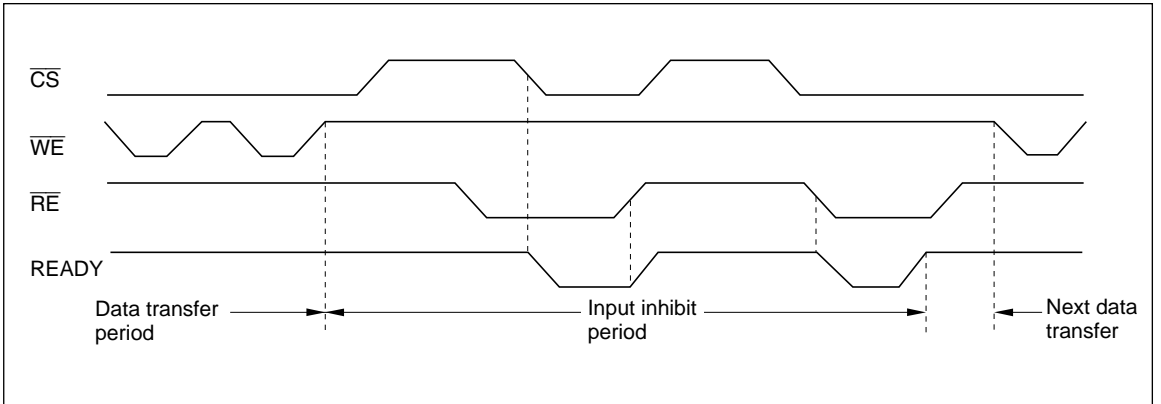

Figure 13 READY Output Timing (When It Is Made Available by \overline{CS} and \overline{RE})
- b. READY is mode available by \overline{CS} and \overline{RE} (figure 13).